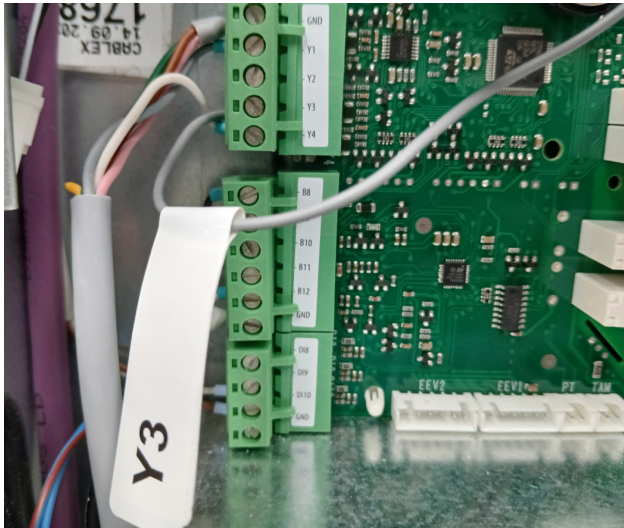

Fig. 69 : Remove Y3 from Connector
13. Unscrew Y3 from its connector and leave in place. See Fig. 69.